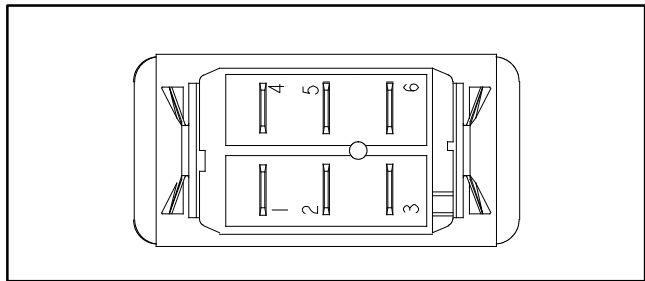

Figure 34
4. With the use of a multimeter (ohms setting), the switch functions may be tested to determine whether continuity exists between the various terminals for each direction switch position. The direction switch terminals are marked as shown in Figure 34. The circuitry of this switch is shown in the chart below. Verify continuity between switch terminals.